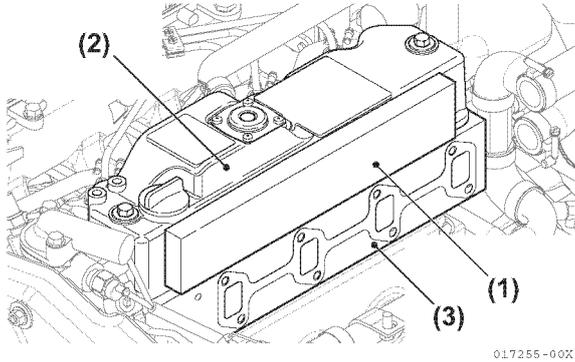

**Figure 5-173**
- 48. Install the seawater pump assembly and gasket to the gear case (Figure 5-172) and (Figure 5-173).